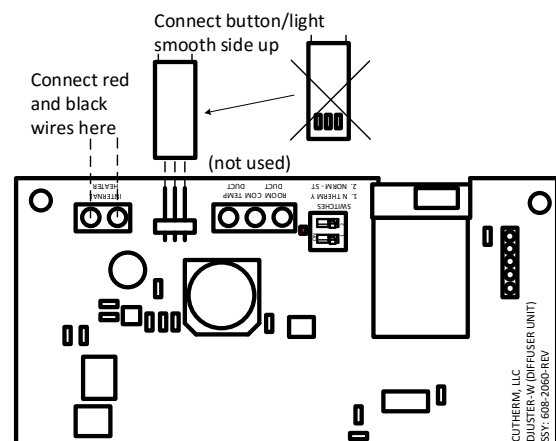

Fig. 5
9. Connect the red wire(s) and the black wire(s) to terminals labeled INTERNAL HEATER (see Fig. 5).